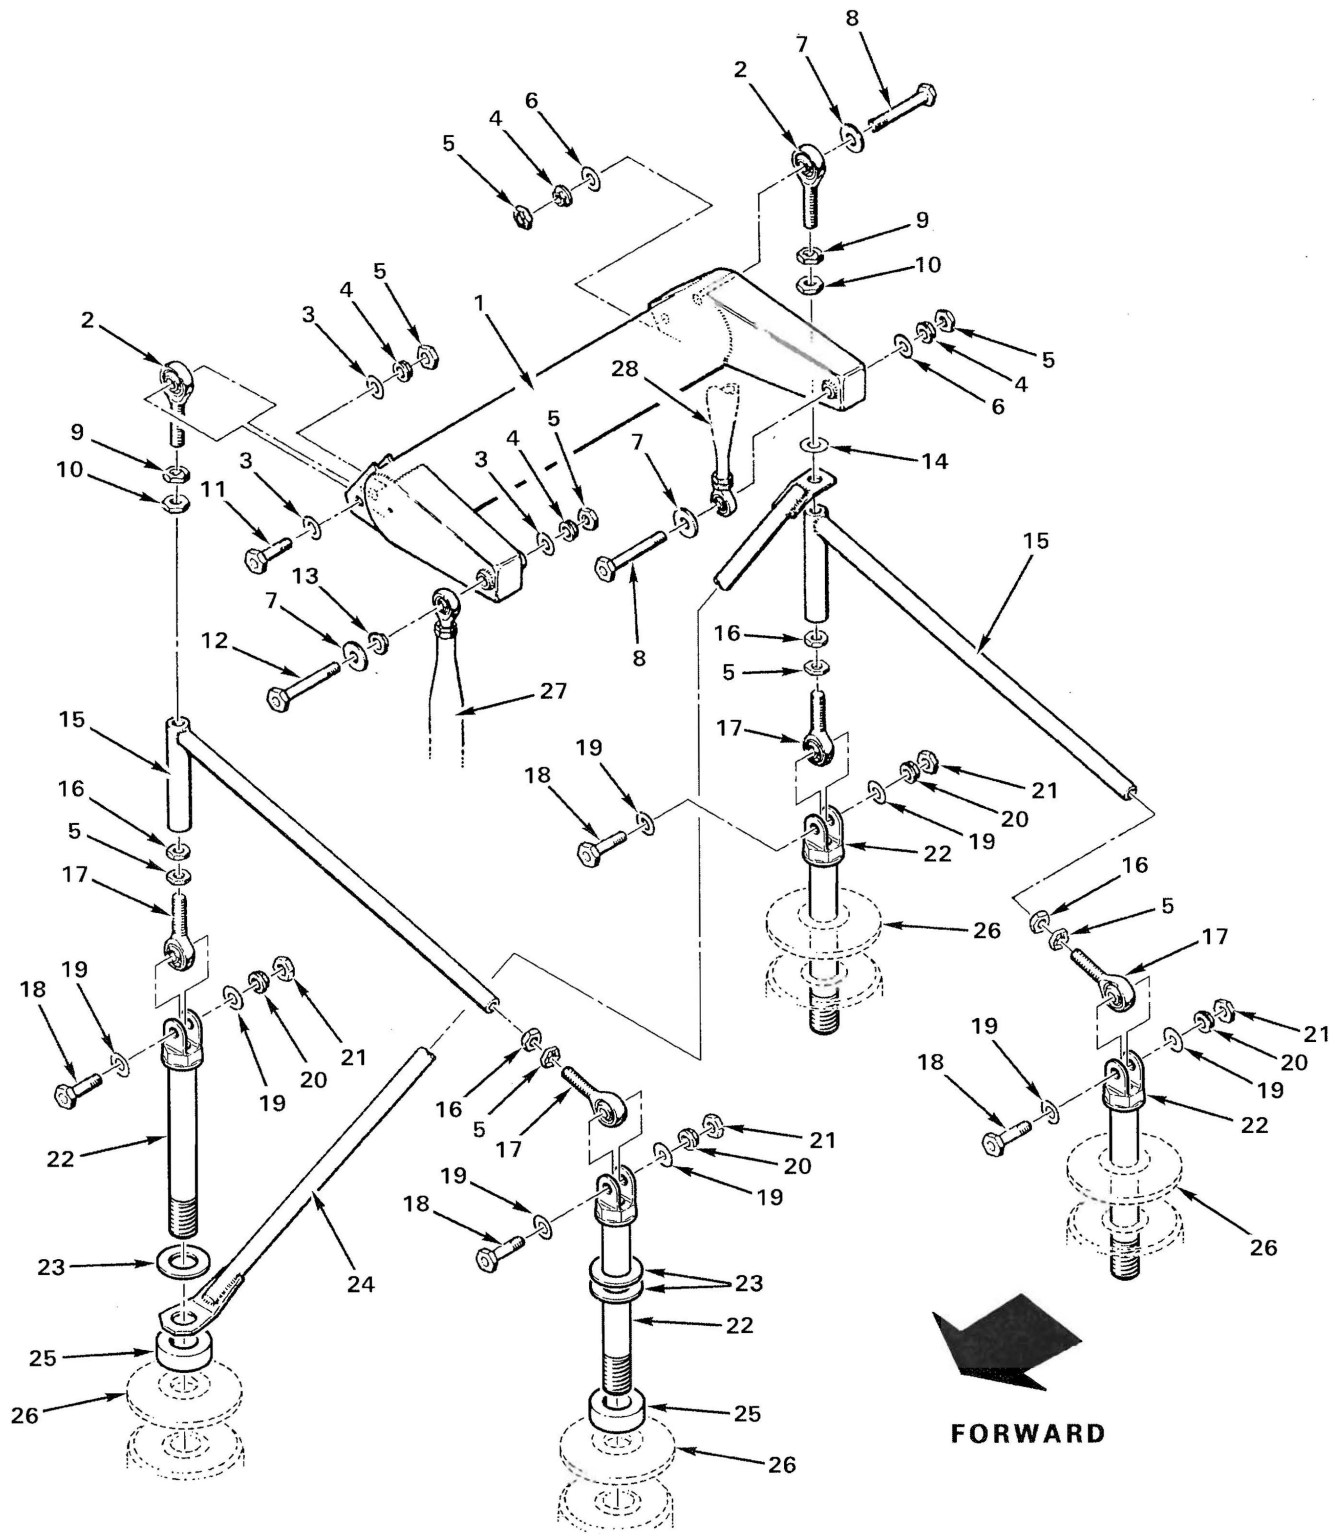

FIGURE 8-9 JACKSHAFT INSTALLATION
8.310 Jackshaft (See Figure 8-9)
8.322 Jackshaft Strut Installation (see Figure 8-9)
- a) Install lower rod ends to the main rotor gearbox fittings as shown in Figure 8-9.
- b) Reinstall the aft vertical strut upper rod end as shown in Figure 8-9. The rod end extension must be set to 0.93 ± 0.03 inch from the end of the strut to the center line of the rod end ball. (The dimension is the same for all six support rod ends.)